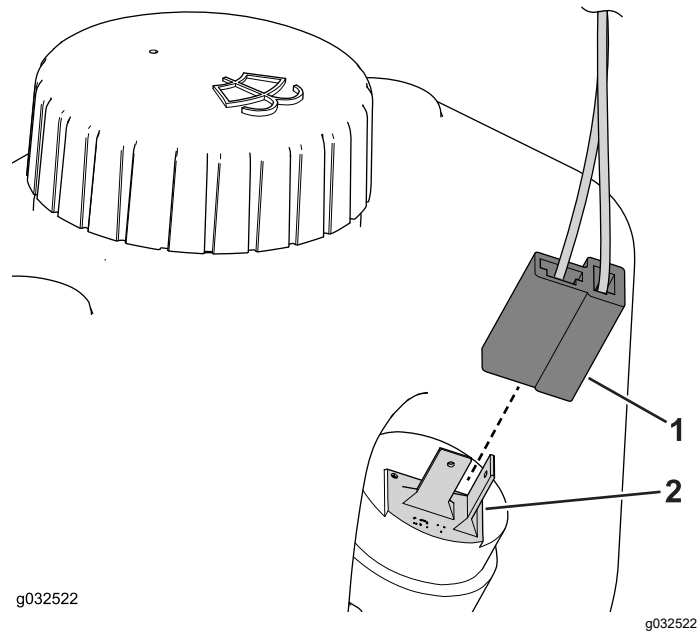

Figure 43
1. Connect the plug into the washer bottle (Figure 43).